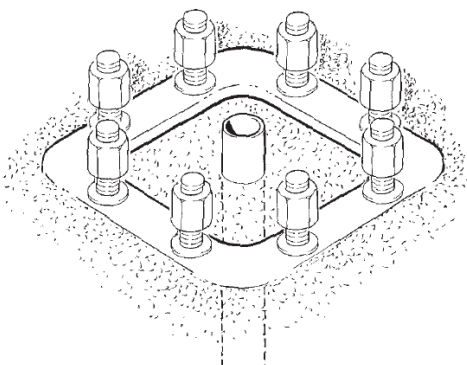

fig.19
4. When needed, insert a tube into the plinth through which the electrical cable which powers the crane can be passed (fig.19).